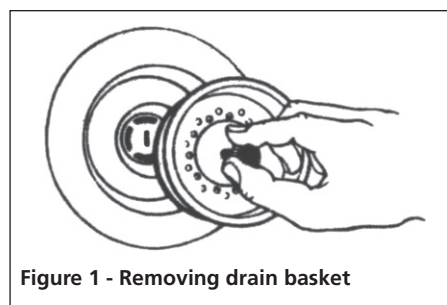

Figure 1 - Removing drain basket
1. Remove sink drain basket and/or stopper (see Figure 1). Turn drain shutoff (if any) to 'Open' position.